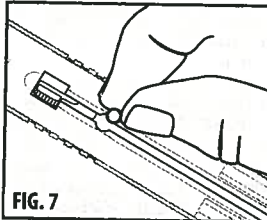

FIG. 7
3. Once the Magazine BB follower is held fully forward, a maximum of 21 .177 caliber BBs can be individually inserted into the Magazine Loading Port as shown. (Fig. 7)